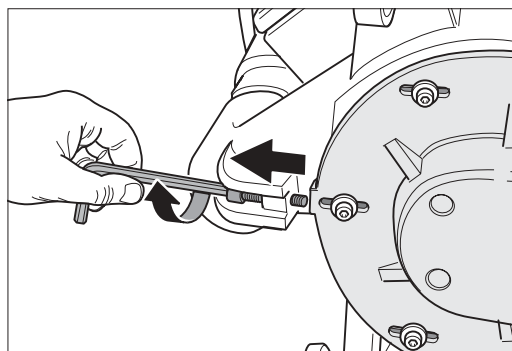

Fig. 63: Unscrew the belt-tensioning screw all the way out.
- 4 To relieve the V-belt tension, use the proper Allen key to unscrew the belt-tensioning screw all the way out until this screw disappears on the front side in the threaded hole of the fan housing (Fig. 63).